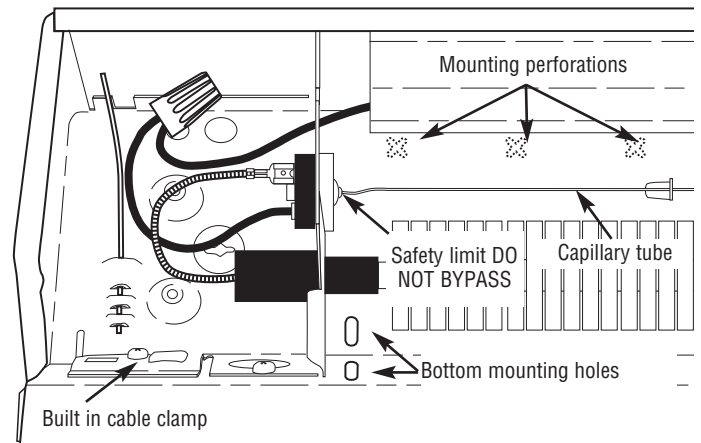

Figure 4: Left Side Wiring Compartment Shown
10. When mounting heater, if bottom mounting holes are used (see Figure 4), make sure screws do not damage supply wiring in the area behind heater.
11. Do not remove or bypass the safety limit control as this could allow heater to become a fire hazard – see Figure 4.
- Loosen screw in built-in cable clamp (Figure 4) or remove desired knockout from heater wiring compartment. Install power cable into wiring compartment allowing at least 6 in (153mm) of cable for connection to heater. To install two power cables using the built-in cable clamp, bend tab covering second hole up and back to rear wall of wiring compartment. If built-in cable clamp is not used, install approved cable restraint (not included) in desired knockout.
**NOTE:** cross stamped mounting perforations are provided in back of heater enclosure above heating element at mounting screw locations, see Figure 4.
- Position heater at desired location and attach to wall using wood screws or appropriate hardware. Locate studs and drive screws into studs where possible. For heaters up to 6 feet (1.8 m) in length, one screw at each end is adequate. For longer units, an additional screw in center is required. Tighten screws and then loosen screws at least ¼ turn to allow heater to expand and contract during use. If unit is mounted above floor, two additional mounting holes are provided at each end below the heating element (see Figure 4). Install an additional screw at each end for stability making sure to loosen each screw at least ¼ turn.
- A safety limit control is provided to turn off the heater automatically if it is blocked or otherwise overheats due to an abnormal condition-see Figures 4 and 5. **DO NOT** bypass or remove this safety device from the electrical circuit-see Warning 11 on page 2. During normal use, this safety control should not operate. If you find that this control is operating, make sure the heater is not being blocked. If it continues to cycle the heater off, disconnect power to heater and have it checked and repaired by a qualified electrician.